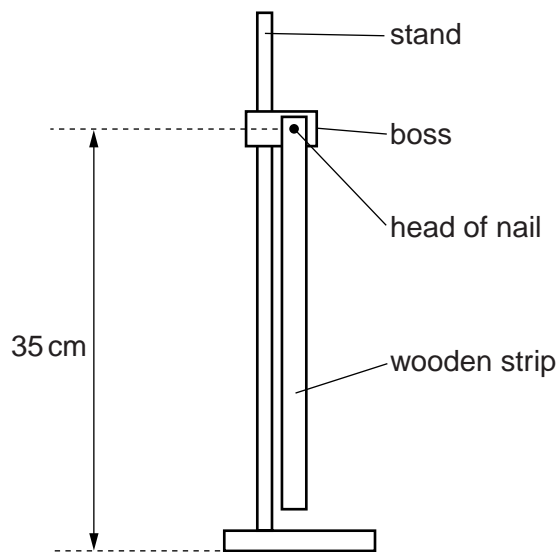

Fig. 2.3
- 4 Assemble the stand, boss, nail and wooden strip as shown in Fig. 2.3, and ensure that the wooden strip swings freely.